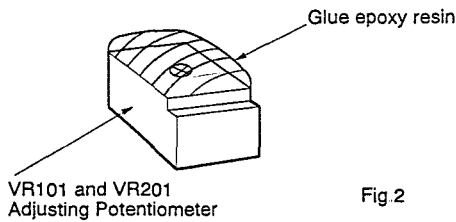

Fig. 2
- ③ After having completed the above adjustments, seal the whole adjusting side of VR101 and VR201 using Cemedine No. 1500 (Araldite) as shown in Fig.2.